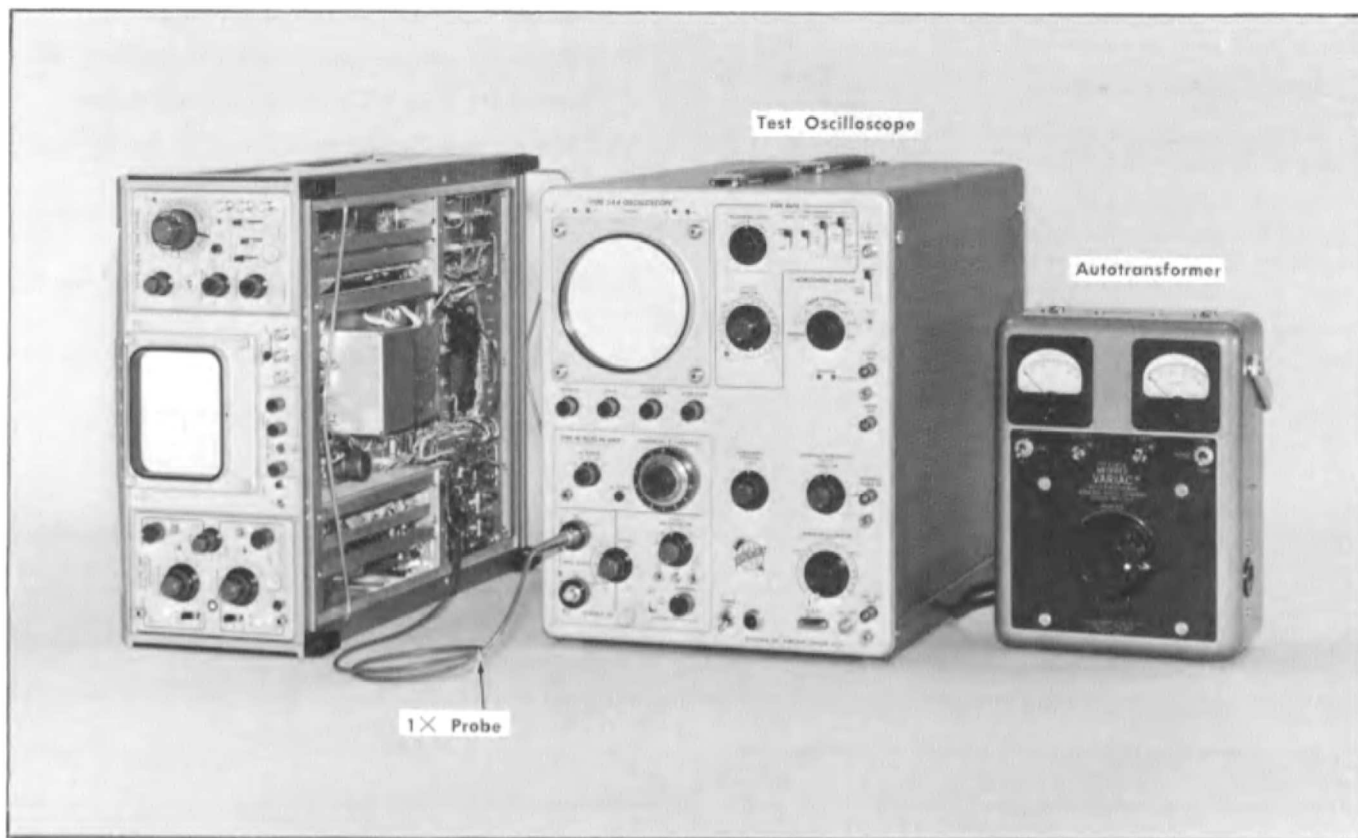

Fig. 6-3. Initial test equipment setup for steps 1 through 5.
15. Set the instrument controls as given following Fig. 6-3.
Test equipment setup is shown in Fig. 6-3.